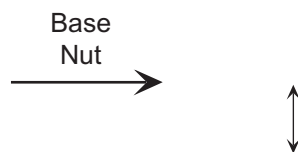

figure 2
1. Turn Bypass to the “Bypass” Position. (see diagram on page 8, figure 2)
8. With the system off of the plumbing, you can loosen the base nut to remove the valve from the media tank. see figure 2
1. Place the new control valve over the base connection, insert the connection fitting into the base. *see page 16 figure 2*